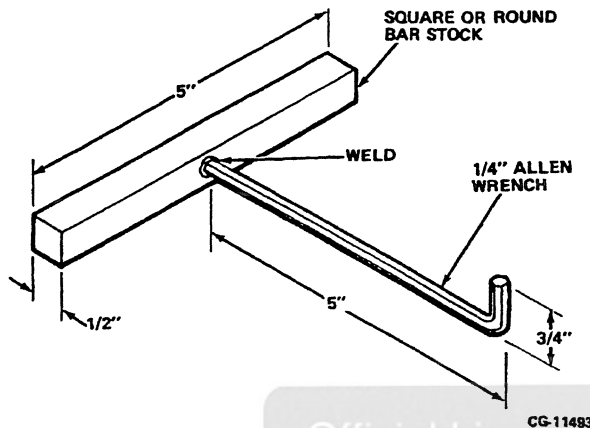

Figure 3.26B. Fabricate Seal Ball Remover Tool
1. Fabricate a seal ball removal tool as follows: (Refer to Figure 3.26B)